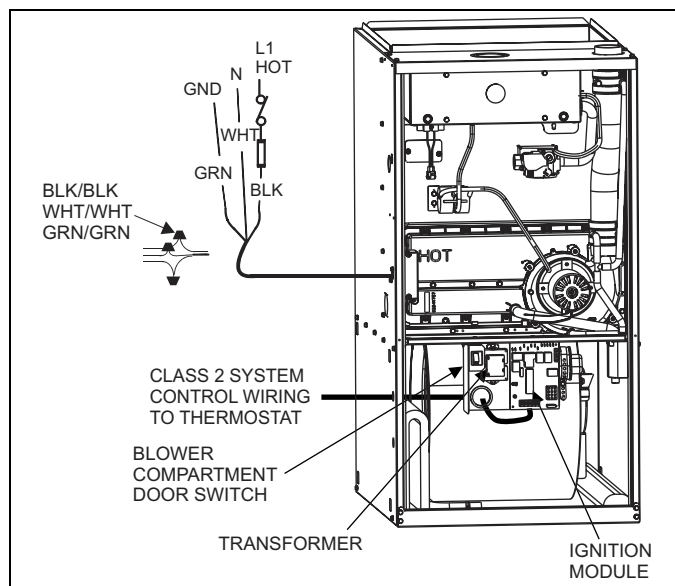

FIGURE 5: Electrical Wiring
2. Remove the screws retaining the junction box cover. Route the power wiring through the opening in the unit into the junction box with a conduit connector or other proper connection. In the junction box there will be three wires, a Black Wire, a White Wire and a Green Wire. Connect the power supply as shown on the unit-wiring label on the inside of the blower compartment door or Figure 5. The black furnace lead must be connected to the L1 (hot) wire from the power supply. The white furnace lead must be connected to neutral. Connect the green furnace lead (equipment ground) to the power supply ground. An alternate wiring method is to use a field provided 2" (5.08 cm) x 4" (10.2 cm) box and cover on the outside of the furnace. Route the furnace leads into the box using a protective bushing where the wires pass through the furnace panel. After making the wiring connections replace the wiring box cover and screws.